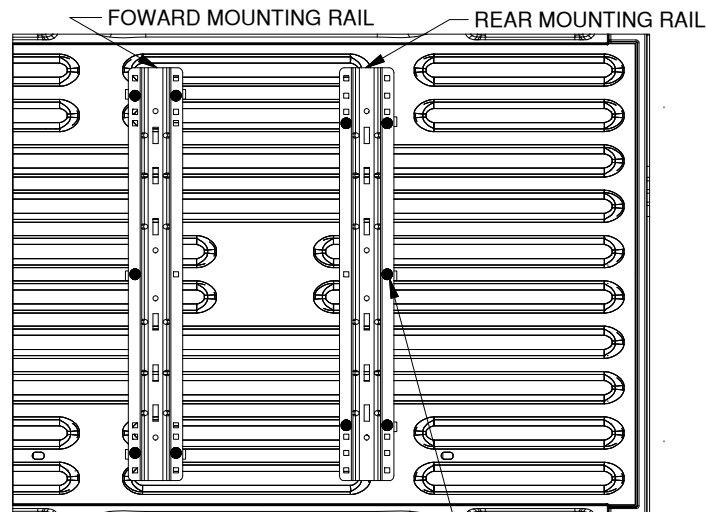

Figure A2: Detail view over bed, showing drill locations for the forward and rear bed rails. DRILL LOCATIONS HIGHLIGHTED BY BLACK DOTS
- Mark hole locations:** While carefully ensuring the mounting rail does not move, use a center punch tool to mark the 5 drill locations on the forward rail. See Figure A2 for hole marking locations for this installation (rear rails will install on a later step). Once all 5 forward rail locations are clearly marked, move the bed rail out of the way and drill each location with an 1/8" drill.
3. **Drill rear mounting holes.** Using the same methods as used for the forward mounting rail, mark and drill the 1/8" holes for the rear mounting rail. Refer to "DRILL FORWARD MOUNTING HOLES" section, step 2, on a previous page. Notice that the hole locations are slightly different than the forward rail, see Figure A2 (on the second page).